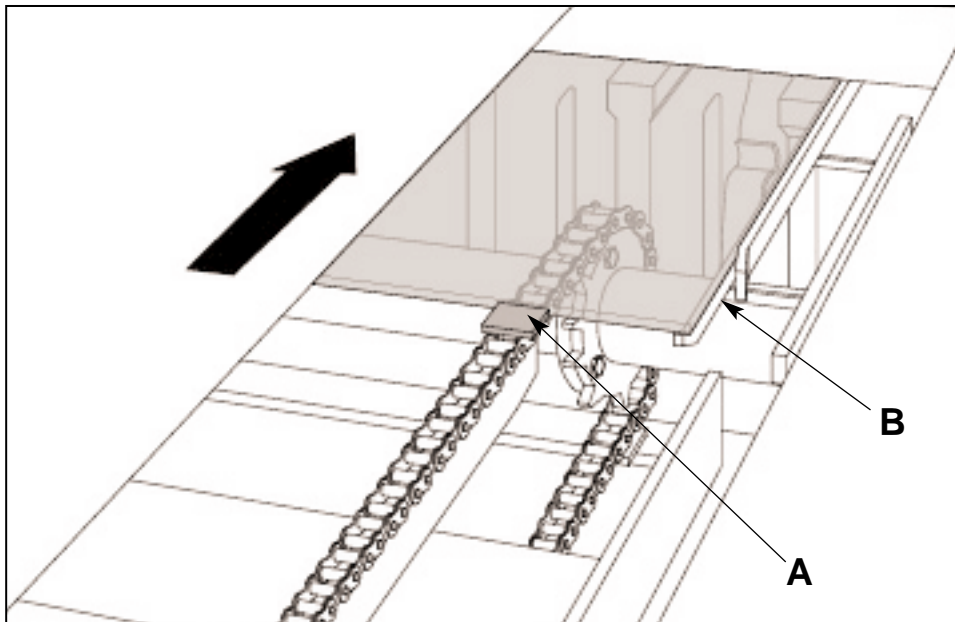

Figure 6.16 LUG (A) SHOULD BE CONTACTING PALLET WHEN IN CRADLE (B).
6.2.9 Adjust pallet chain lugs to be even with back of pallet (see figure 6.16) by removing shear bolt and shaft (6.17). Use wrench to adjust lug chain (6.18). Place shear bolt assembly in holes that align and tighten.